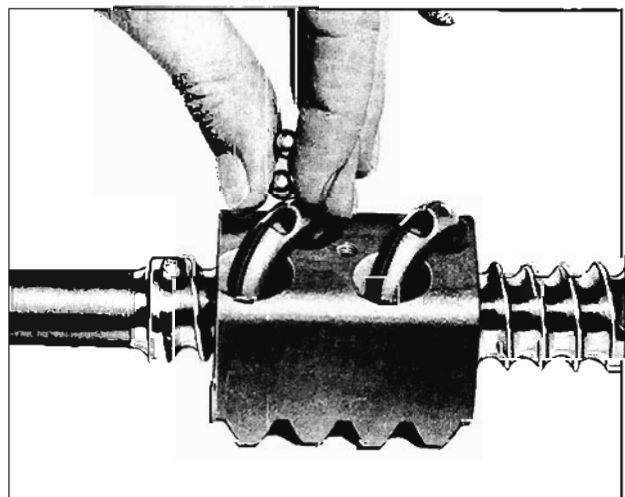

Fig. 8-18 Ball Installation
4. Install 25 balls into each circuit through the hole in the return guides. (Fig. 8-18)